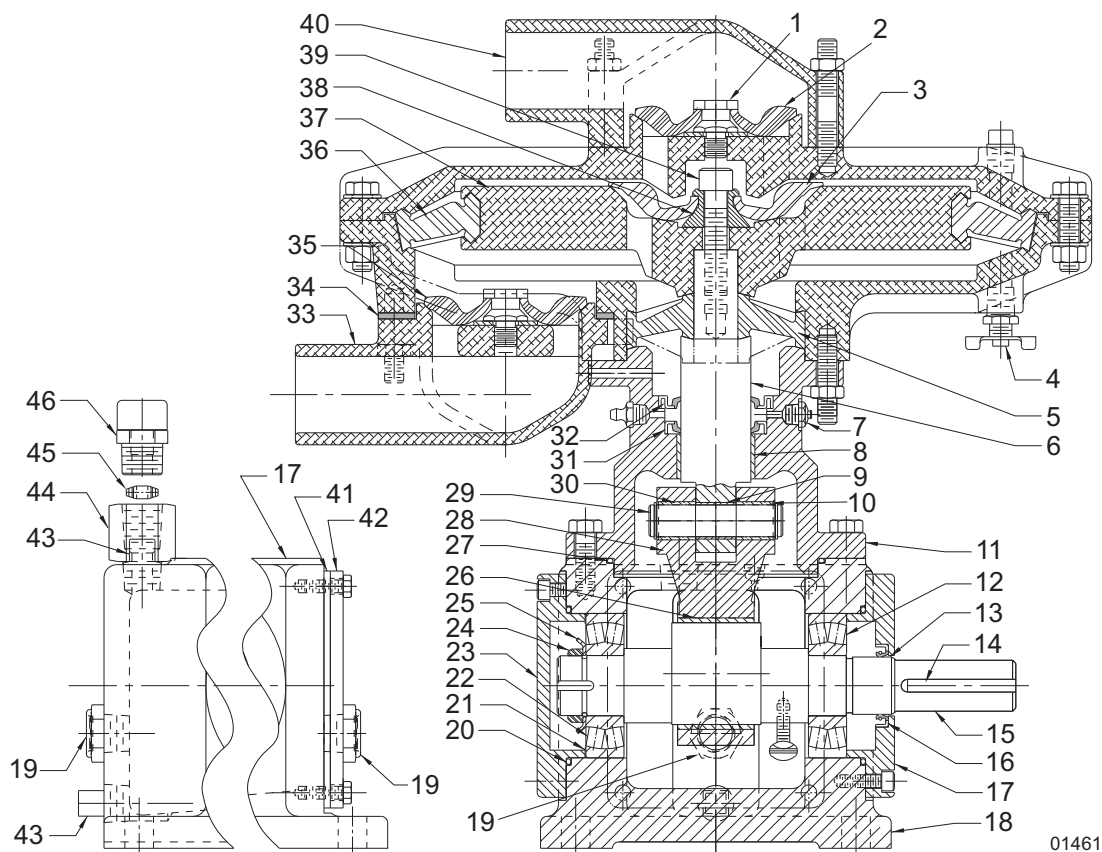

Figure 25 - Redi-Prime® Vacuum Pump Cross-section
1. On a new replacement shaft, with a zero lead ground lip seal surface, no speed-sleeve is required. On a reinstalled shaft, when surface condition dictates, or on a new shaft with a turned surface, install a speed-sleeve .06-.12 in. (1.52-3.0 mm) past the outside drive end shoulder. Refer to Figure 25 on page 64.